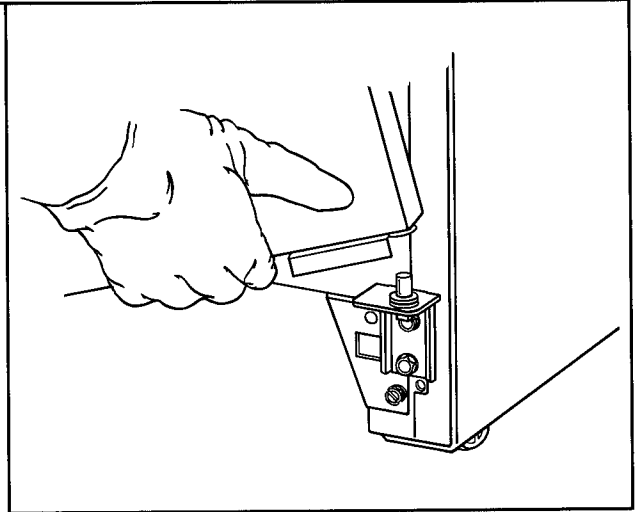

Figure 19
- a. Place door on cabinet by fitting bottom right socket over pin on bottom hinge bracket. See Figure 19.